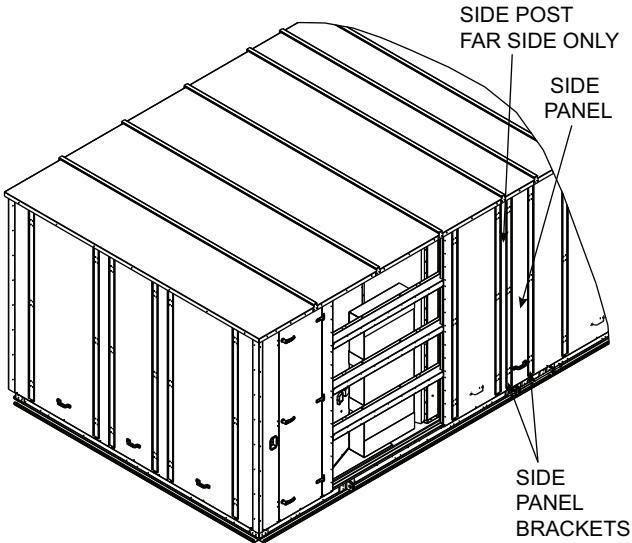

Fig. 62 — Side Post and Panel Installation
15. Install side post on far side of unit. See Fig. 62.
16. Install side panels at main unit section/return section split. Install panel side brackets, 2 on each panel. See Fig. 62.